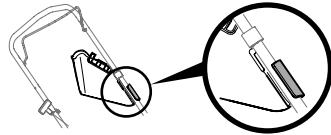

Figure 15
**NOTE:** Some side discharge chutes include a clip to secure the discharge chute to the handle. If equipped, the side discharge chute can be secured to the handle when not in use (Figure 15).